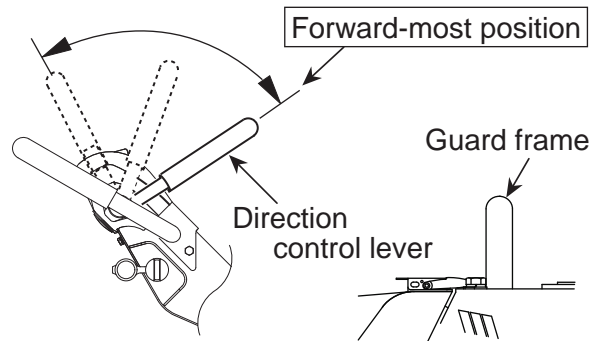

Figure 31. Direction Control Lever (Forward Position)
7. With the direction control lever at the forward-most position, secure the guard frame with a rope to immobilize (Figure 31).